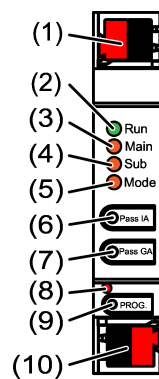

Figure 1: Front view
- Connect bus lines to KNX device connection terminals (see figure 1) observing the correct polarity.
- Connect the higher-order line to the lower device connection terminal (10). Power is supplied to the device via this terminal.
- Connect the subordinate line to the upper device connection terminal (1).